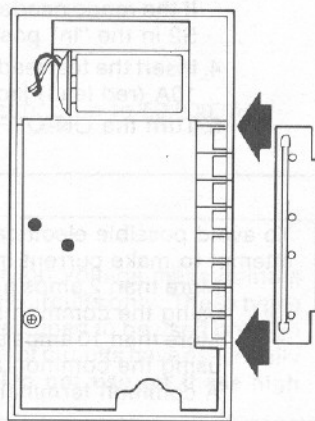

Fig. 5
7. Bend shield back down over exposed fuse. Place plastic strip on switches S1-S8 as shown in Fig. 5.